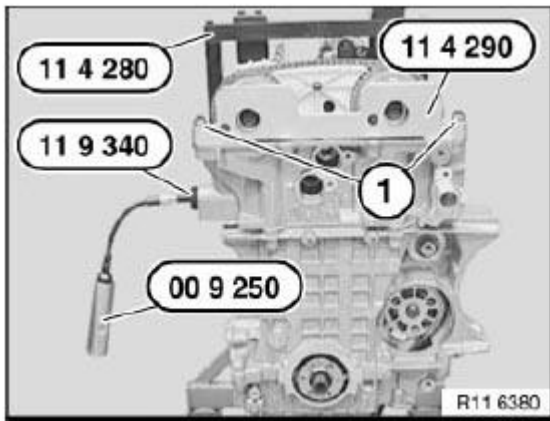

Fig. 218: Identifying Special Tools
Secure special tool 11 4 290 with bolts (1). See **Fig. 218**.
Screw special tool 11 9 340 into cylinder head. See **Fig. 218**.
Secure both central bolts of adjustment units to camshafts with special tool 00 9 120. See **Fig. 218**.